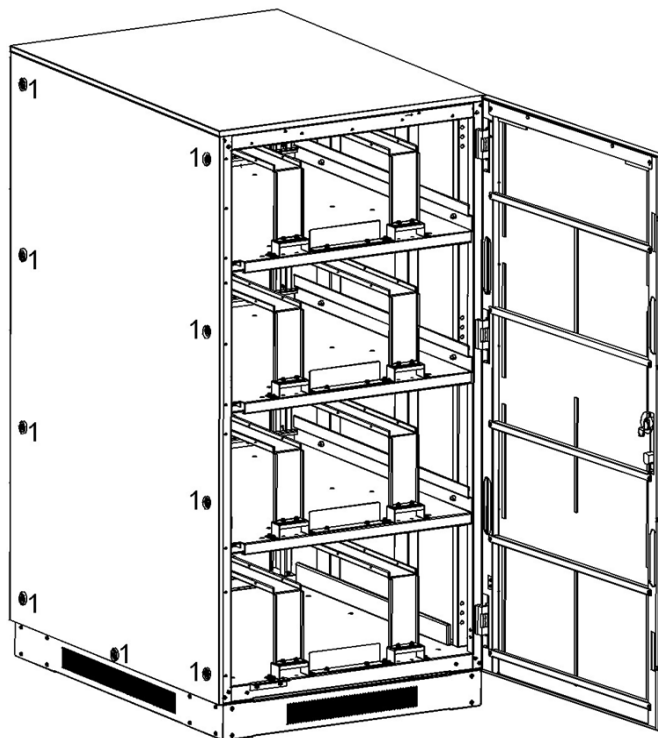

Figure 5-28A
1. Remove all screws labeled 1 (Figures 5-28A and 5-28B).